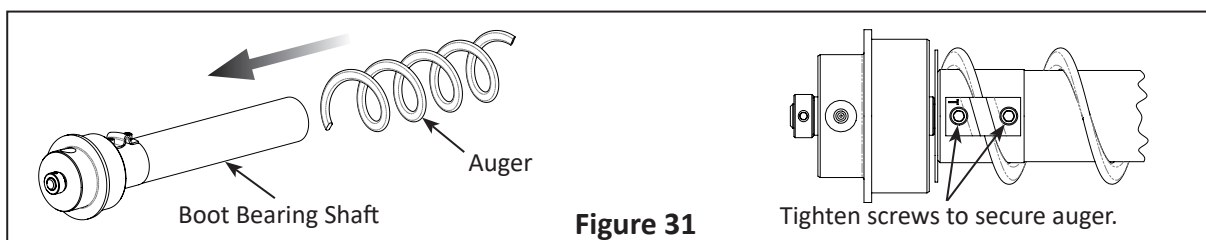

Figure 31
6. Slide the boot bearing shaft onto the auger and thread the auger inside the anchor, as shown in Figure 31. Tighten the square head set screw to secure auger.